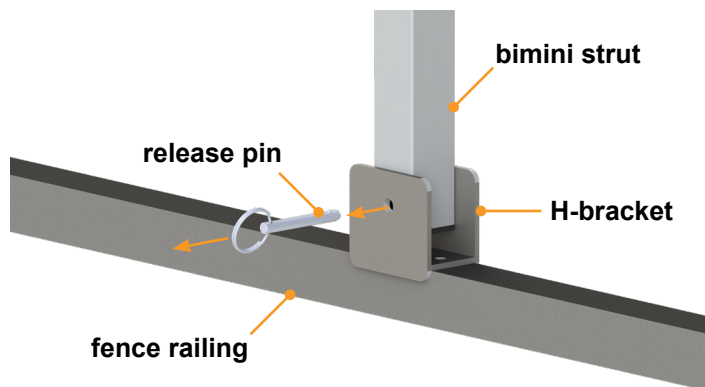

Fig.3
2. Remove all bimini frame struts from their H-brackets (Fig.3).